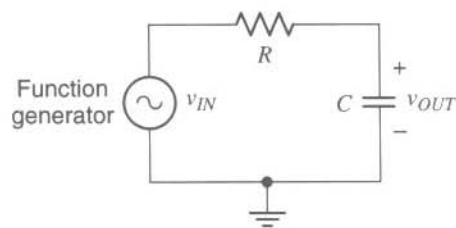
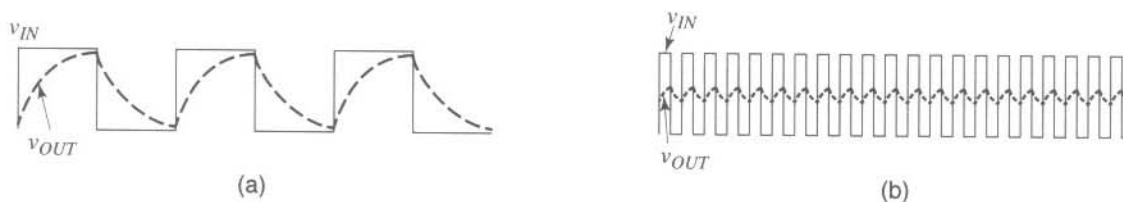
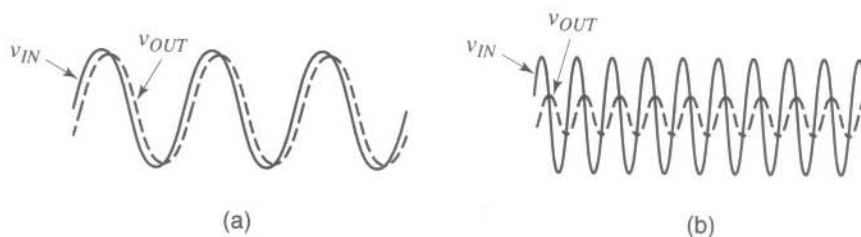
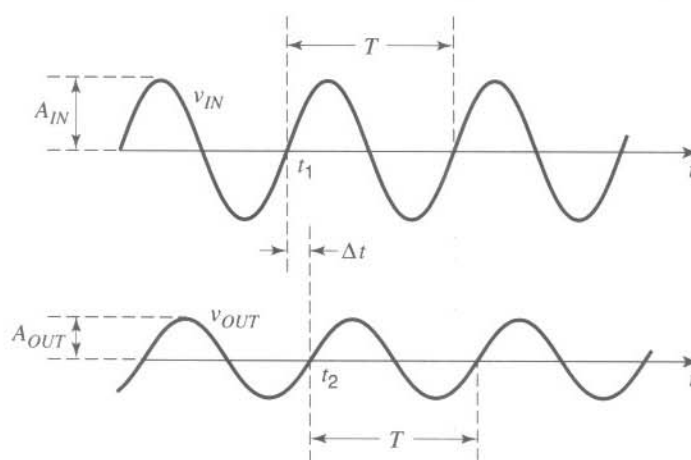

Fig. 1
Fig. 2
Fig. 3
Fig. 4
13. To verify your prediction in the previous step, you need to display the waveform for v_R . *However*, you *cannot* connect a probe's input across the resistor. If you did so, where would the ground clip of the probe be attached? If it were attached to the resistor terminal on the right, it would place a ground at that point, and then the capacitor would be shorted out since its bottom terminal is also at ground (see also Fig. 2 of Experiment 3 and the associated discussion). If, instead, the probe's ground clip were attached to the resistor terminal on the left, it would short out the function generator, which would be even worse, as damage could be caused to the generator. Voltages like v_R , defined across two terminals, neither of which is grounded, are sometimes referred to as floating voltages.
Consider the circuit of Fig. 1. In Experiment 6, you saw that if a square wave with a large period is applied to its input, the capacitor has the time to charge or discharge almost fully during each half interval, as shown in Fig. 2(a). The output then follows the input rather closely. If, however, the period of the input is made small, the output capacitor does not have time to charge or discharge fully, and the situation illustrated in Fig. 2(b) is observed. Now the output cannot follow the large excursions of the input, and its excursions become small.
These observations do not hold only for square wave inputs. Other shapes, such as triangle or sinusoidal, show qualitatively the same behavior. This is illustrated for a sinusoidal input in Fig. 3. As seen, low input frequencies allow the output to virtually follow the input, as seen in Fig. 3(a). We say that the low-frequency input signal “passes” to the output. On the other hand, when the input frequency is high, the output cannot follow the input, as shown in Fig. 3(b), and the output amplitude becomes small. The input signal, to a significant degree, is rejected, or “does not pass,” to the output. For these reasons, the circuit is said to be a *low-pass filter*. Many different circuits are low-pass filters, but we will concentrate on the simple one in Fig. 1 and study it in detail.
Because at very low frequencies the capacitor voltage is almost equal to the input voltage, as shown in Fig. 3(a), we say that “at very low frequencies, the capacitor in Fig. 1 acts almost as an open circuit.” Indeed, if the capacitor in Fig. 1 were replaced by an open circuit, the resistor current would be zero, and thus the voltage across the resistor would also be zero; the output voltage would then be equal to the input voltage. At high frequencies, on the other hand, the capacitor voltage is small, as shown in Fig. 3(b), and if the frequency is made very high the capacitor voltage is almost zero; because of this, we say that “at very high frequencies, the capacitor in Fig. 1 acts almost as a short circuit.” Indeed, if the capacitor in Fig. 1 were replaced by a short circuit, the output voltage would be zero.
Consider a linear circuit and assume that, at a given frequency, the input and output signals are as shown in Fig. 4. The amplitude of the input is A_{IN} , and that of the output is A_{OUT} . To indicate to what extent the input signal has passed to the output, we define the voltage gain magnitude, G :
The value of G depends on the circuit and the input frequency. For an amplifier, it can be much larger than 1. For the circuit of Fig. 1, it cannot exceed 1.
In Fig. 1, because the RC circuit shows some “inertia” (it takes time for the capacitor to charge or discharge before the output can rise or fall significantly), the various features of the sinusoidal output waveform (peaks, valleys, and zero crossings) appear to occur somewhat later than the corresponding features of the input waveform. We say that the output signal is *phase-shifted* with respect to the input signal. The phase difference between the output and the input can be determined with the help of Fig. 4. With the period T corresponding to 360 degrees, the phase difference between the two waveforms will be $[(\Delta t)/T] \times 360$ degrees, where $\Delta t = t_2 - t_1$, as shown in the figure. This is the phase by which the top waveform leads (is ahead of) the bottom one or, identically, the phase by which the bottom waveform lags (is behind) the top one. It is common to quote instead the phase by which the bottom waveform *leads* the top one; this is the *negative* of the above quantity and will be denoted by ϕ . Thus,
The values of G and ϕ depend on how fast the signal is varying in relation to the circuit's "speed." Consider, for example, the circuit of Fig. 1. We have seen in Experiment 6 that a measure of the circuit's "slowness" is its time constant, $\tau = RC$. Thus, a measure of the circuit's speed is the inverse, $1/\tau = 1/(RC)$. It is common to consider how the circuit behaves when the input's angular frequency ω (in rad/s) is equal to this measure. Since $\omega = 2\pi f$, where f is the frequency in Hz, we are interested in the behavior of the circuit at a critical frequency f_c for which $2\pi f_c = 1/(RC)$; thus f_c is given by
1. Connect the circuit of Fig. 1, using $R = 16 \text{ k}\Omega$ and $C = 10 \text{ nF}$. Set the input frequency at 1 kHz and its amplitude (peak value) at 2V. Monitor the input waveform on the scope's channel 1 and the output waveform on channel 2, with both channel inputs set at AC. Use $\times 1$ probes. The sensitivity of the two channels (V/div) should be the same, and the variable sensitivity control for each should be in the calibrated position. The trigger source selector should be at channel 1, the trigger coupling at AC, and the trigger slope at positive. You should be able to obtain a display like that in Fig. 4. Carefully establish the 0 level for each waveform by using the ground setting for each scope input, and align this level with a main graticule horizontal line, using the vertical position control.
6. The phase shift between the output and the input, ϕ , was defined under Background above. Measure this quantity, with the input frequency equal to the cutoff frequency f_c that you determined in step 3. To make this measurement easier, move one of the two waveforms vertically, so that its 0 level coincides with the 0 level of the other waveform (use the ground input mode on the scope to establish the 0 levels accurately). Then Δt can be easily estimated as the horizontal displacement between two zero crossings, as shown in Fig. 4.³ Is the phase shift at f_c approximately equal to the theoretically predicted value of -45 degrees?